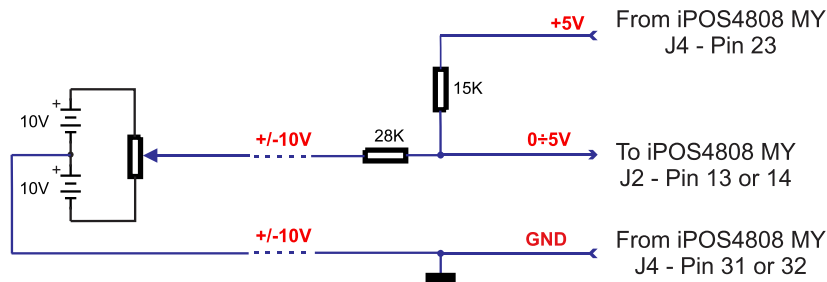

Figure 3.11. +/-10V to 0-5V adapter
1. Default input range for analog inputs is 0÷5 V for REF and FBDK. For a +/-10 V range, see Figure 3.11.